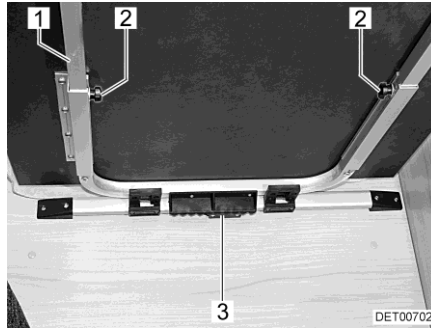

Fig. 69 Shifting/extending the suspension table
- Loosen the knurled screws (Fig. 69,2).
- Lift the table top slightly and pull out as far as possible. The table extension (Fig. 69,1) is fully extended.
- Lift the table top slightly and push back as far as possible. The table extension (Fig. 69,1) is fully retracted.